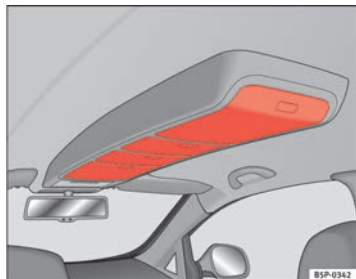

Fig. 106 Roof storage compartments
- Press the button on the cover to open these compartments ⇒ fig. 106. The cover will then open.